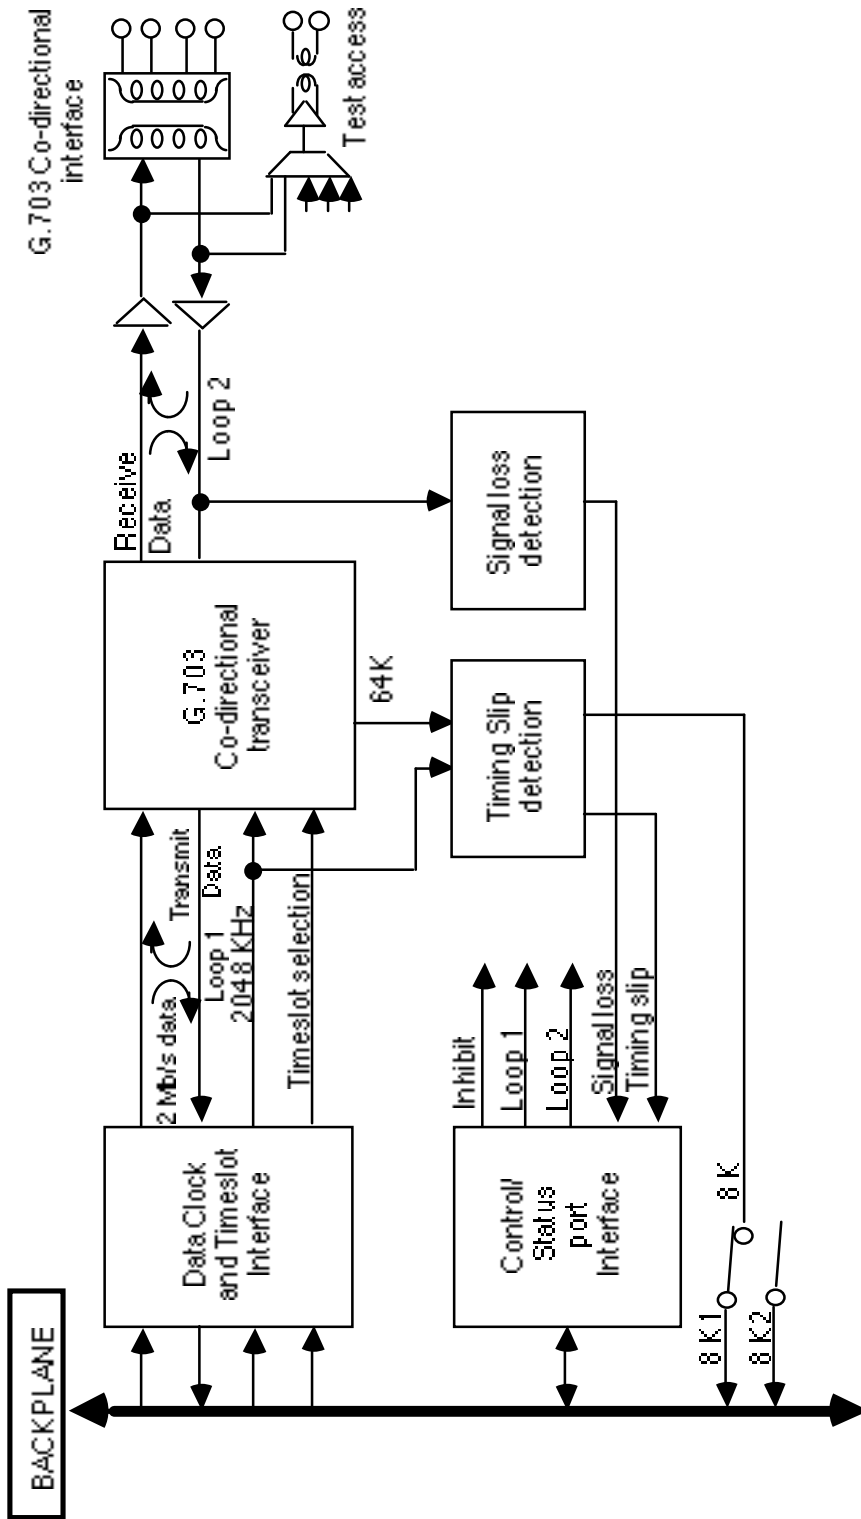

Figure 1-1 G.703 Co-directional Data Card Block Diagram (for one circuit)
2. When loop 2 is active, the timing slip alarm is not available and the signal loss alarm applies to the received looped data (See figure 1-1).
Note: Refer to Fig.1-1 for the position of receive and transmit data.